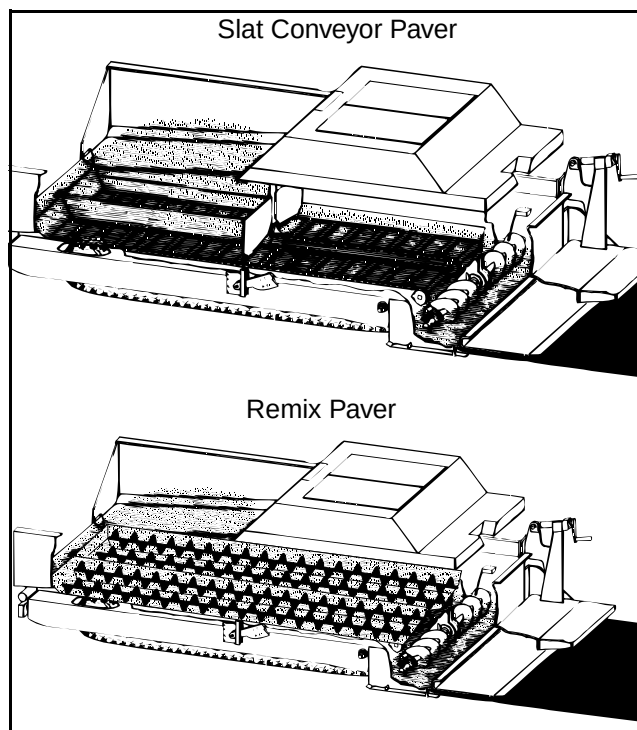

Figure 3 - 58 Shaded areas to be sprayed down daily
- 3) Start cleaning at the truck hook/push rollers and work your way to the rear of the machine cleaning the hopper wings, slat conveyors/remix augers, hopper gates, spreading augers, screed bottom, end gates, strike-offs, etc. (Figure 3 - 58)